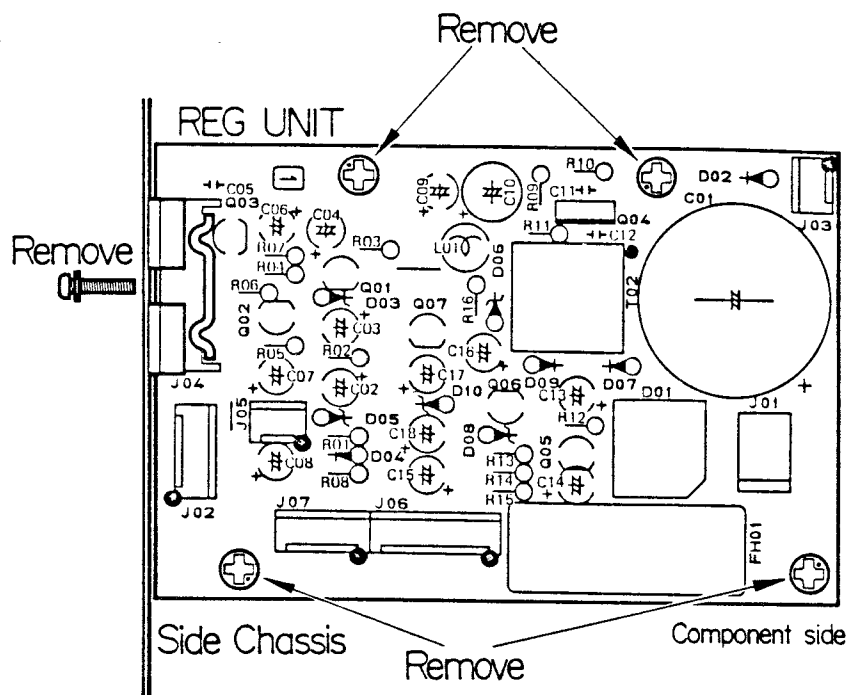
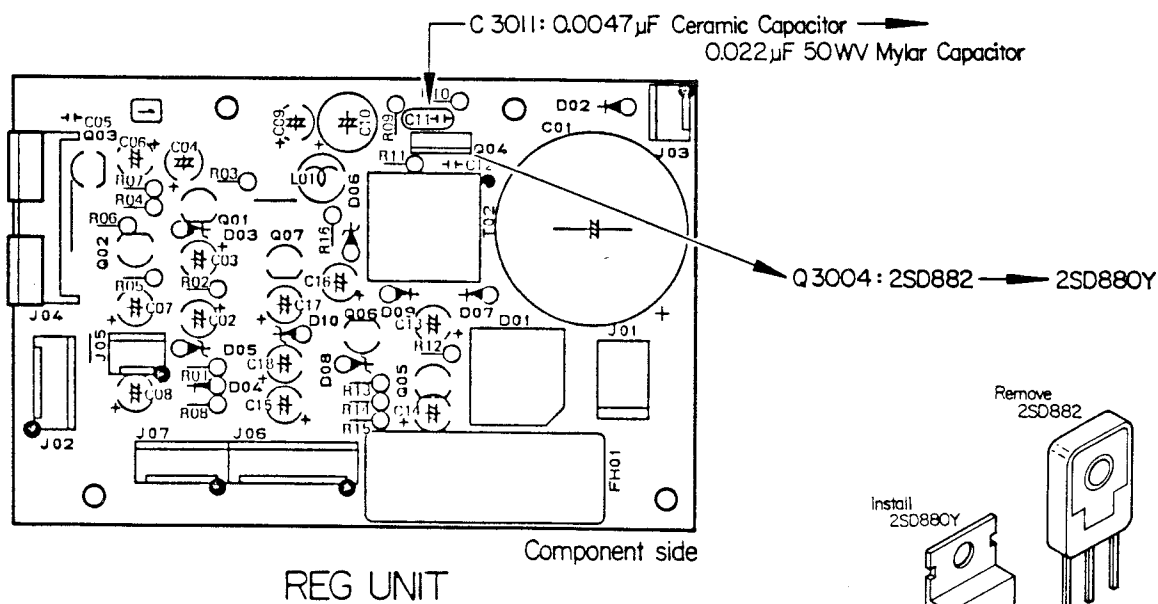

Figure 2
Figure 3
- (1) Disconnect the power cord and remove a backup battery from the compartment in the rear panel.
- (2) Remove the two screws affixing the carrying handle, and remove the handle.
- (3) Remove the lower two screws from the left side and two screws from the bottom of the case, and remove the bottom cover.
- (4) Referring to Figure 2, remove the five screws affixing the REG Unit, to allow access to the solder side of the Unit.
- (5) Remove 0.047uF ceramic capacitor C3011, and replace it with a 0.022uF, 50WV Mylar type.
- (6) Remove type 2SD882 transistor Q3004, and install a type 2SD880Y in its place. Note that the packaging and pinout of these two types are different, as shown in Figure 3.
- (7) Replace the REG Unit and its five screws, and then the bottom cover, handle and screws removed in steps (2) and (3). Replace the backup battery and the power cord.